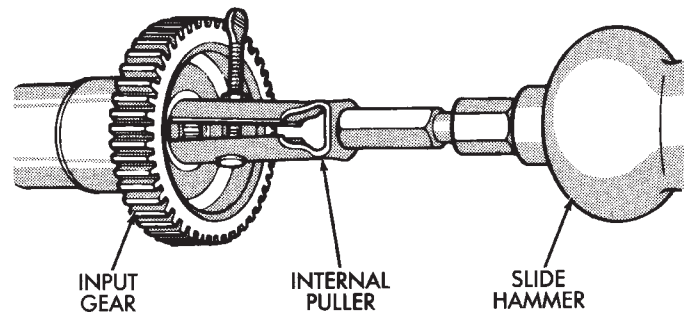

Fig. 42 Input Gear Pilot Bearing Removal
- (9) Remove input gear pilot bearing with slide hammer and internal puller (Fig. 42).